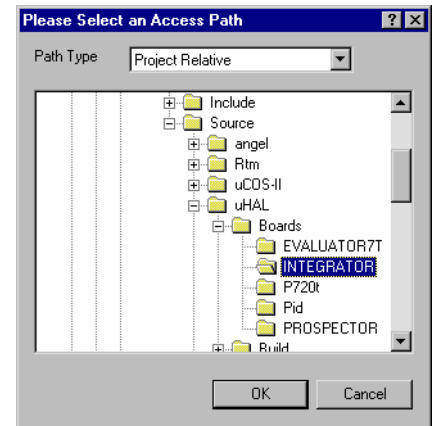

Figure 5-8 Relative path
- d. Click **Change** to display the dialog for selecting a new path. Select the new path and click **OK**. See Figure 5-8.